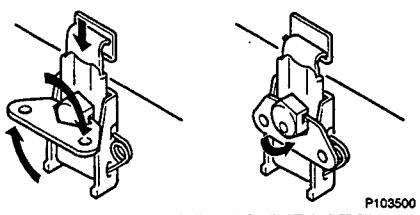

FIGURE 6: LOCKING THE LATCH
- 7) Engage the latch and turn key fully clockwise (to the right). Flip the key down to lock (see Figure 6).